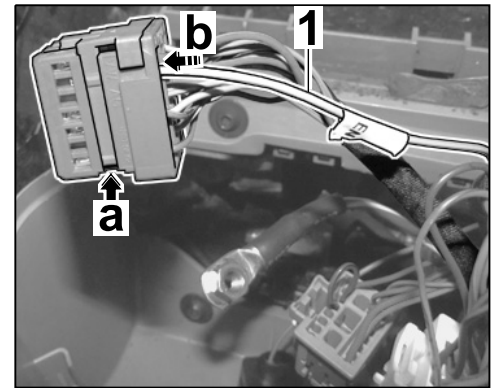

Figure 20
- 2.3.1 Open secondary lock ⇒ *Figure 20-a-*.
- 2.3.2 Insert socket contact ⇒ *Figure 20-b-* of VT/BU line into chamber 6.